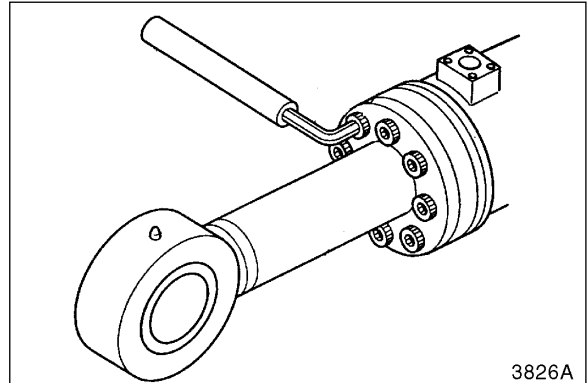

Figure 7
1. Use an allen wrench to remove bolts that hold cylinder head to cylinder tube. See Figure 7.